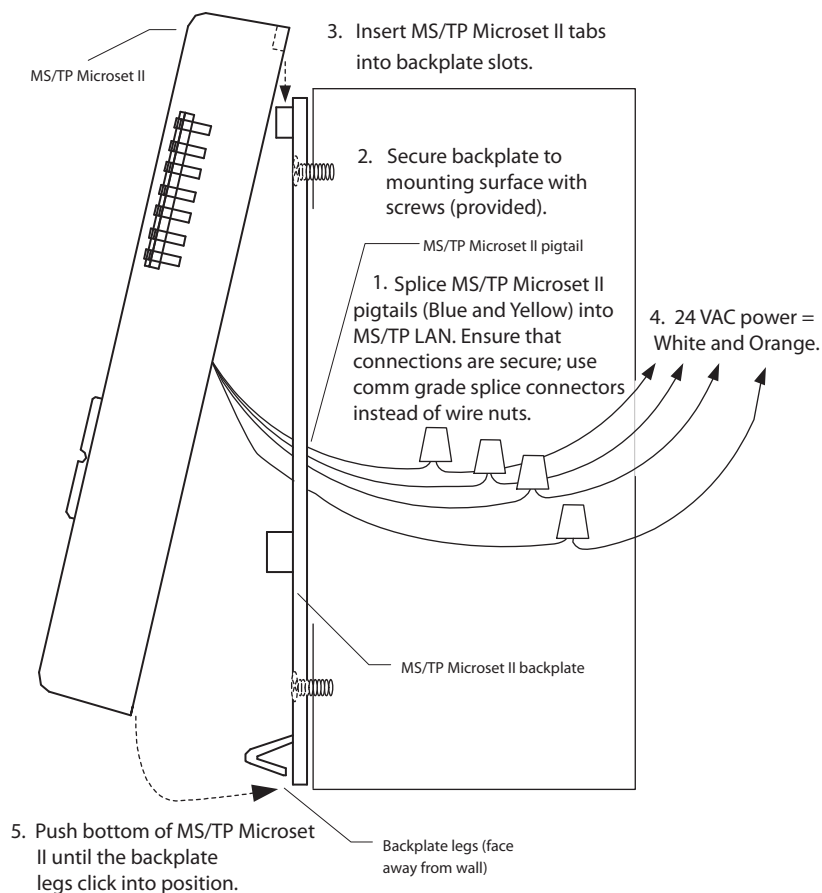

Figure 3 MS/TP Microset II mounting.
The MS/TP Microset II is designed to be wall-mounted indoors, with dimensions ideal for mounting to a single-gang electrical box. See Fig. 3 on p. 10.
7. The two tabs on the inside top edge of the MS/TP Microset II should fit into the tab slots on the backplate (see Figure 3).
8. Push the bottom of the MS/TP Microset II onto the backplate legs until they snap securely on the tab-stops (see Figure 3).